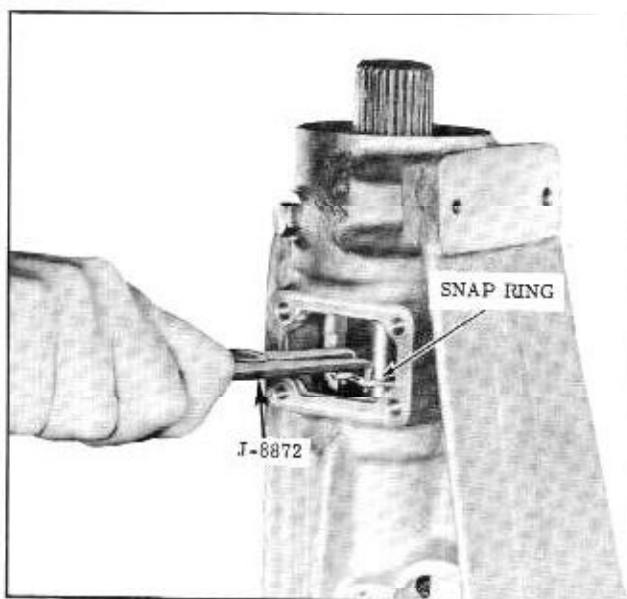

Figure 3-34 Unseating Snap Ring
4. Reaching through access hole in rear bearing retainer, cut and remove "O" ring from output shaft, unseat the rear output shaft snap ring using Tool J-8872 and move snap ring upward over output shaft "O" ring groove. (Fig. 3-34)